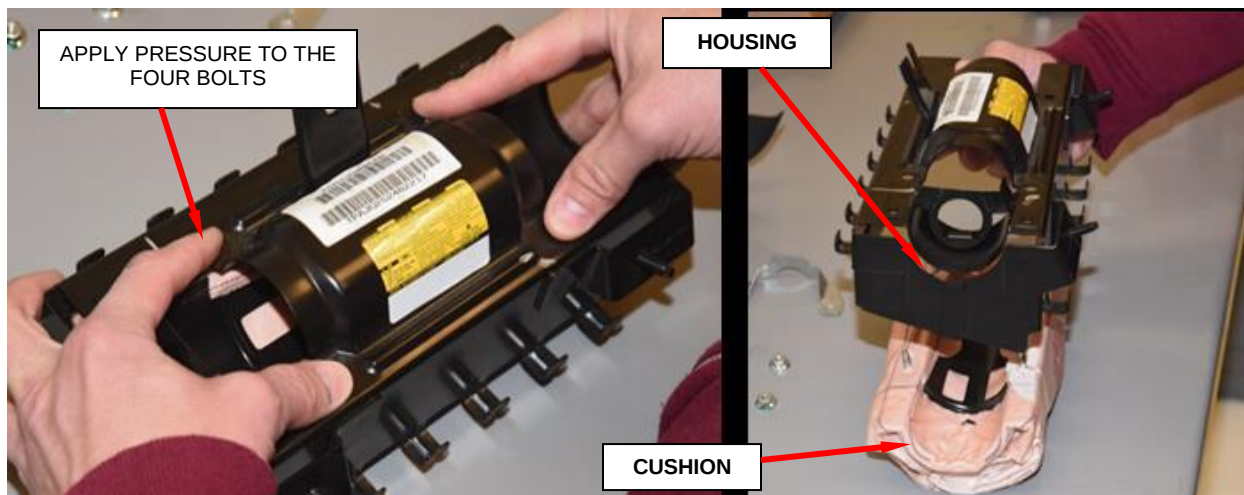

Figure 171 – Remove Airbag Cushion from Housing
26. Working through the access hole, **loosen** the nut that secures the PAB upper bracket and the instrument panel armature to the stud near the windshield fence line (Figure 171).